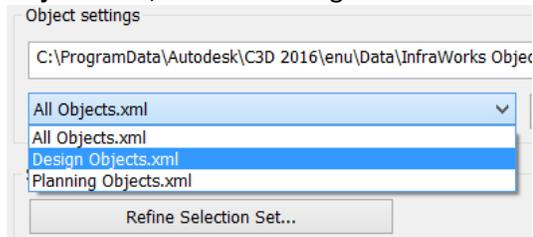

Figure 19
- In the Object settings area, select **Design Objects.xml**, as shown in Figure 19.